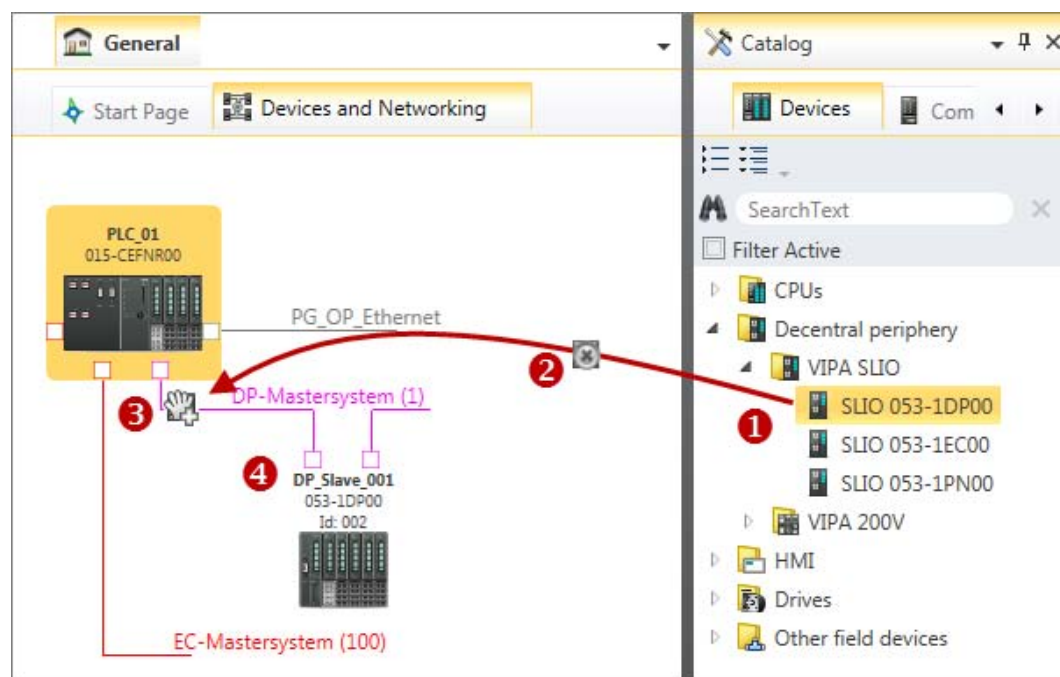

Fig. 62: Adding slave via "Catalog"
- **Catalog:** Drag the desired slave from the 'Device templates' register of the catalog (↪ *Chap. 4.10 'Catalog' page 34*) to the connecting line of the bus system in the 'Devices and networking' editor. Fig. 62